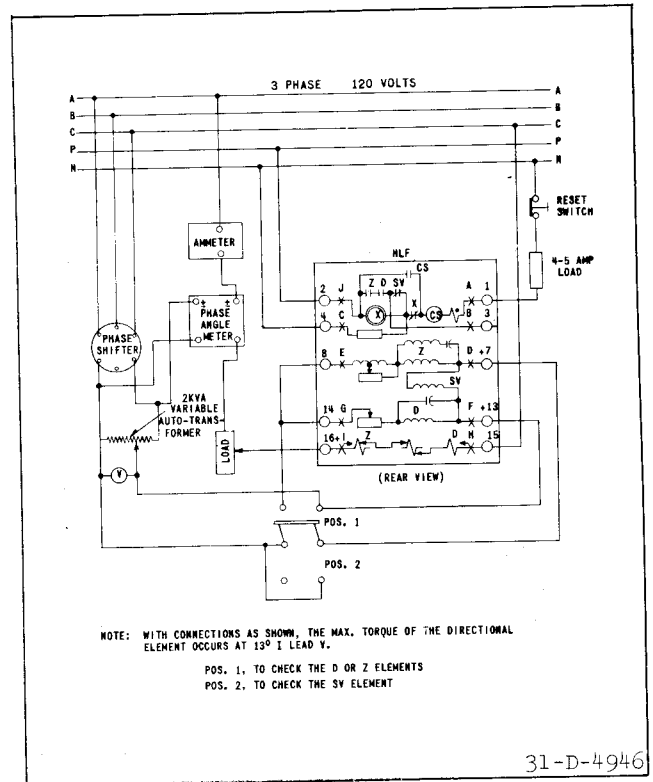

Fig. 8—Diagram of Test Connections for the Type HLF Relay.
1. Connect the relay as shown in Fig. 8, with the switch in position 1 and the trip circuit deenergized.
1. Connect the relay as shown in figure 8, with switch in position 2 and the trip circuit
1. Connect the relay as shown in Fig. 8, with the switch in position 2.
The impedance element beam should be balanced as follows: Connect the relay with polarities as shown in the test diagram, Fig. 8. Set the offset taps  $Z_R$  and A on zero. With any tap and scale setting, check the impedance measured by the relay with 100 volts potential restraint. Apply 10 volts restraint and adjust the balance weight on the beam until the beam just trips with 1/10 of the current required to trip with 100 volts restraint. The current should be suddenly applied.